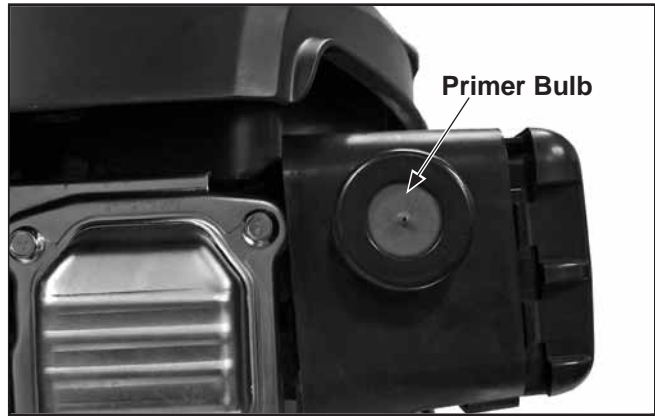

Figure 10. Primer Bulb.
3. When the outside temperature is above 55°F (13°C), press **CENTER** of primer bulb three times before starting. When outside temperature is below 55°F (13°C), press **CENTER** of primer bulb five times before starting. See Figures 10 and 11.